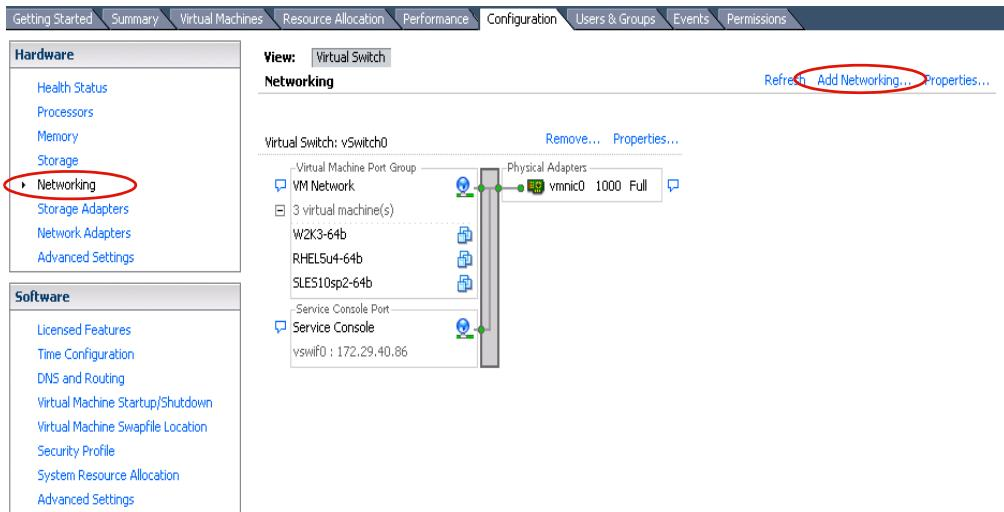

Figure 5-15. Configuring Networking Adapters
4. In the Hardware pane, select **Networking**, as shown in Figure 5-15.